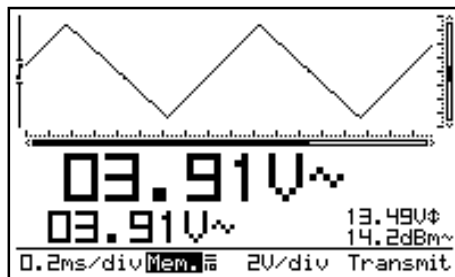

Fig 53
„Transmit“ (2) is displayed briefly during the file transmit. (Fig.53)